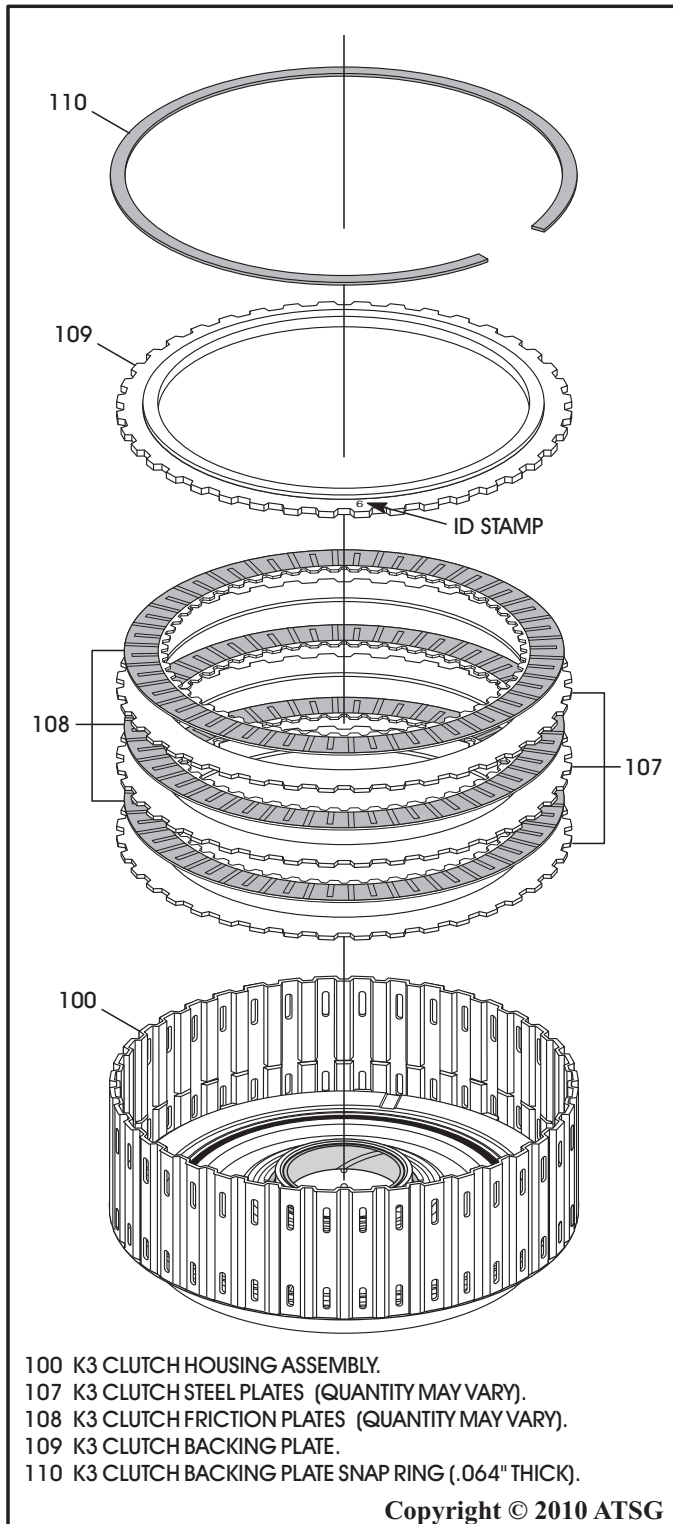

Figure 109
9. Install K3 clutch pack beginning with a steel plate and alternating with frictions, as shown in Figure 109, until you have installed the proper quantity, as the quantity may vary.
10. Install the K3 clutch backing plate on top of the last friction, as shown in Figure 109, with step side facing up.
11. Install the K3 clutch backing plate snap ring, as shown in Figure 109.